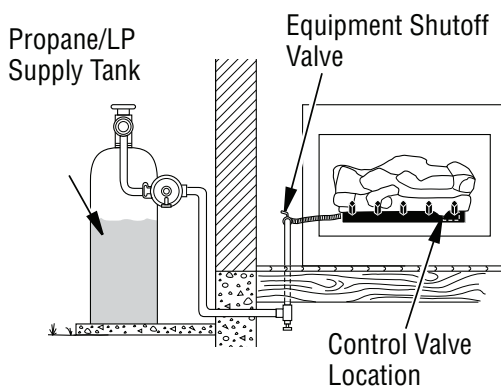

Figure 16 - Checking Gas Joints (Propane/LP Only)
3. Check all joints from gas meter to equipment shutoff valve for natural gas or propane/LP supply to equipment shutoff valve for propane/LP (see *Figures 16 or 17* on *Pages 15*). Apply noncorrosive leak detection fluid to all joints. Bubbles forming show a leak.